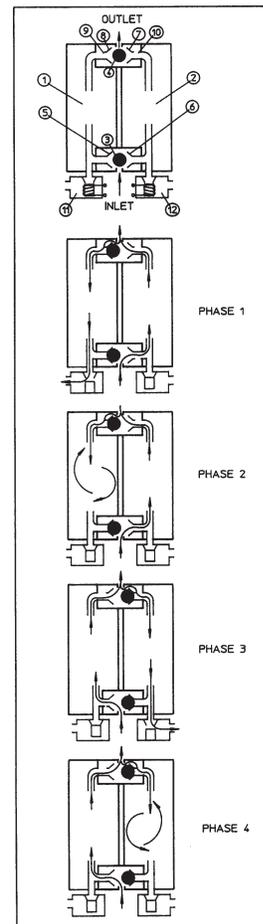

Figure 3
2.3 In the DRY-PAK®, the moisture is adsorbed in one of the desiccant towers (see figure 3 and section 3.0 for an explanation of dryer operation). When the air leaves the dryer, it is at a dewpoint of -40°F (-40°C) or lower.